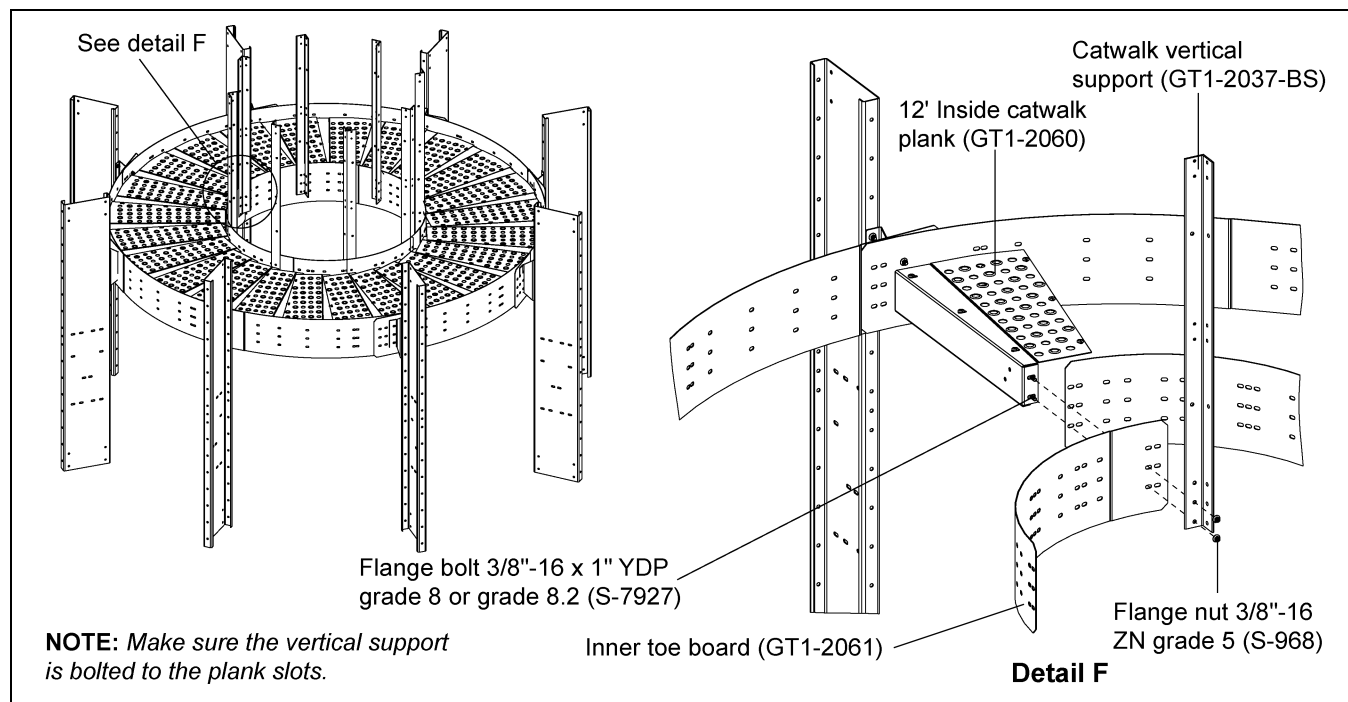

**Figure 5I**
1. Install the knee support (GT1-2039-BS) around the dryer between the catwalk support clips (GT1-2040-BS) and planks (GT1-2060) using 3/8"-16 x 1" YDP grade 8 or grade 8.2 bolts (S-7927) and 3/8"-16 ZN grade 5 nuts (S-968). (See Figure 5I.)